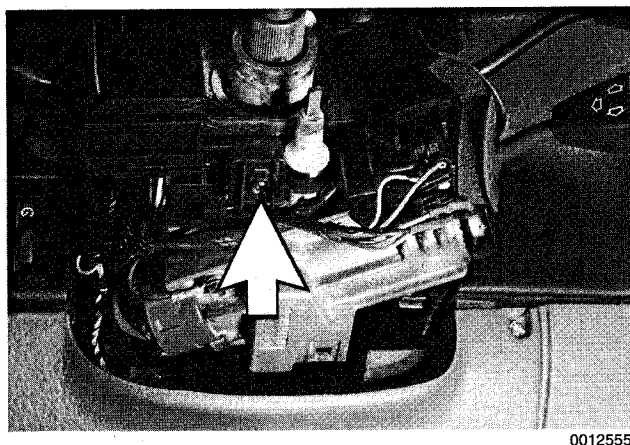

Fig. 2. Stalk switch holder retaining screw (arrow).
6. Remove stalk switch holder retaining screw. See Fig. 2.